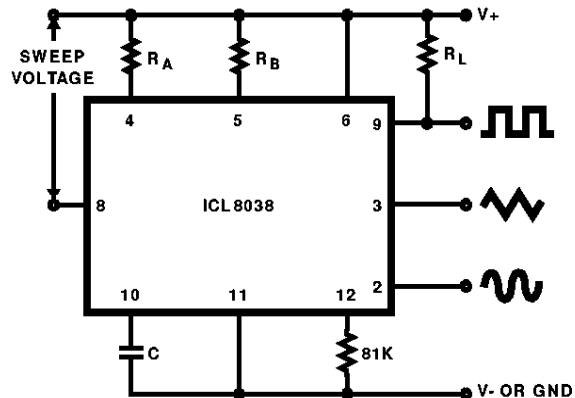

FIGURE 5B. CONNECTIONS FOR FREQUENCY SWEEP
7. The hi and lo frequencies can be obtained by connecting pin 8 to pin 7 (f_{HI}) and then connecting pin 8 to pin 6 (f_{LO}). Otherwise apply Sweep Voltage at pin 8 ($\frac{2}{3} V_{SUPPLY} + 2V$) $\leq V_{SWEEP} \leq V_{SUPPLY}$ where V_{SUPPLY} is the total supply voltage. In Figure 5B, pin 8 should vary between 5.3V and 10V with respect to ground.
For larger FM deviations or for frequency sweeping, the modulating signal is applied between the positive supply voltage and pin 8 (Figure 5B). In this way the entire bias for the current sources is created by the modulating signal, and a very large (e.g. 1000:1) sweep range is created (f = 0 at VSWEEP = 0). Care must be taken, however, to regulate the supply voltage; in this configuration the charge current is no longer a function of the supply voltage (yet the trigger thresholds still are) and thus the frequency becomes dependent on the supply voltage. The potential on Pin 8 may be swept down from V+ by (1/3 V_SUPPLY - 2V).